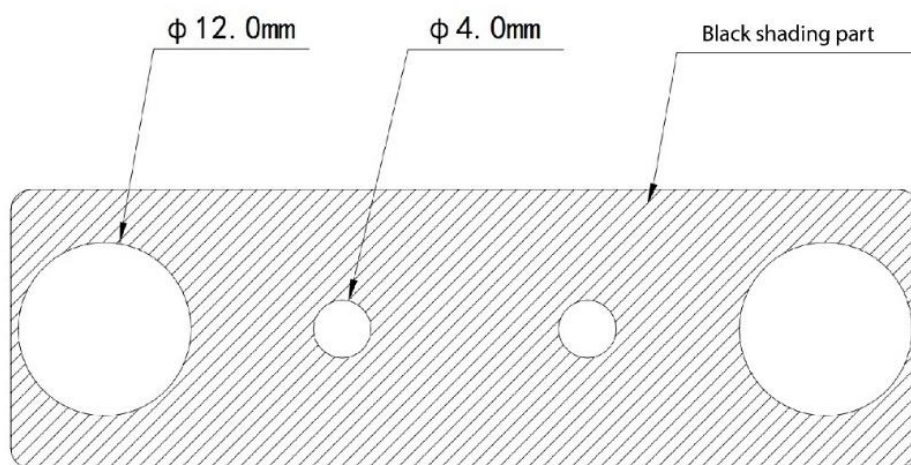

Figure 8.1 Aperture dimensions on acrylic material
- 2) The size of apertures of the lens ranges from 4 mm to 7 mm on the transparent material in front of the lenses. So, circular holes with a diameter of 4 mm are recommended, as shown in Figure 8.1.
- 3) The size of apertures of the near-infrared fill lights ranges from 12 mm to 15 mm on the transparent material in front of the near-infrared fill lights. So, circular holes with a diameter of 12 mm are recommended, as shown in Figure 8.1.
- 4) Excluding apertures in front of the lenses and near-infrared fill lights, shielding is necessary to reduce the influence of stray light on image collection, as shown in Figure 8.1.